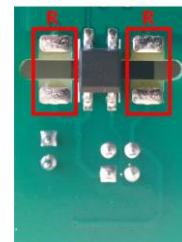

Figure 18: location of the connection for using the internal supply of FS-XT with the external isolated CAN bus
- The second solution is to use the FS-XT internal supply. In this case, the insulation is lost but there is no need for an additional and external supply. To connect and use the internal supply for the CAN bus, two onboard connections must be made by welding 0Ω resistor (standard 2512 SMD package) on the location under the connector n°5 shown on Figure 18.